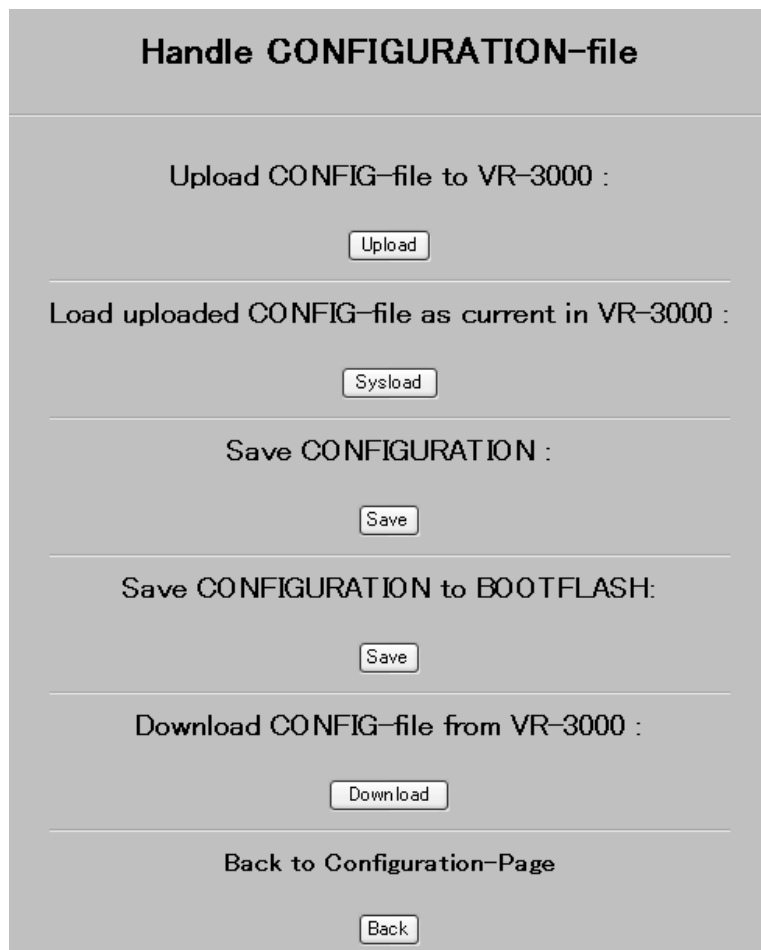

Fig. 4.1 Handle CONFIGURATION-file window
2. Press Handle CONFIG-file button. Handle CONFIGURATION-file window appears. (Fig. 4.1)